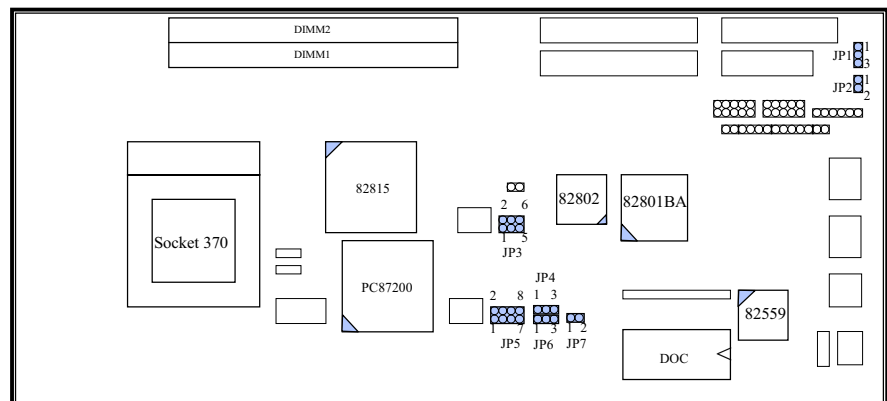

Figure 2-1 ROBO-678 Jumper Locations
In general, jumpers on the single board computer are used to select options for certain features. Some of the jumpers are designed to be user-configurable, allowing for system enhancement. The others are for testing purpose only and should not be altered. To select any option, cover the jumper cap over (Short) or remove (NC) it from the jumper pins according to the following instructions. Here NC stands for “Not Connected”. (**Figure 2-1**)